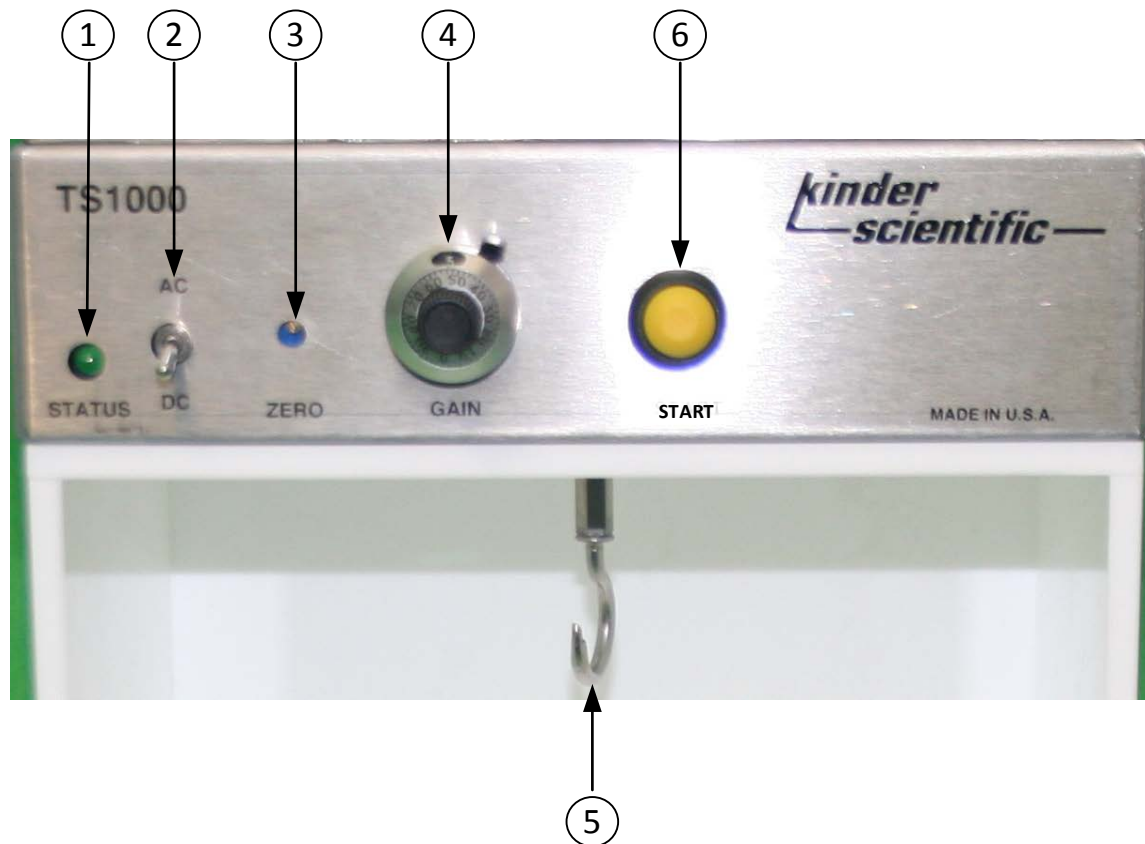

Figure 1-3. TS1000 Front-Panel Controls and Indicators
Each **BSC100** Control Chassis is capable of monitoring up to eight stations using a single pc. An example of the *VibrationMonitor II* Control Chassis front panel is shown in Figure 1-3.
1.8.2 TS1000 Front-Panel Controls and Indicators The TS1000 Front Panel contains the controls and most of the electronics for the *VibrationMonitor II* System. Figure 1-3 and Table 1-1 describes the front-panel controls and indicators.